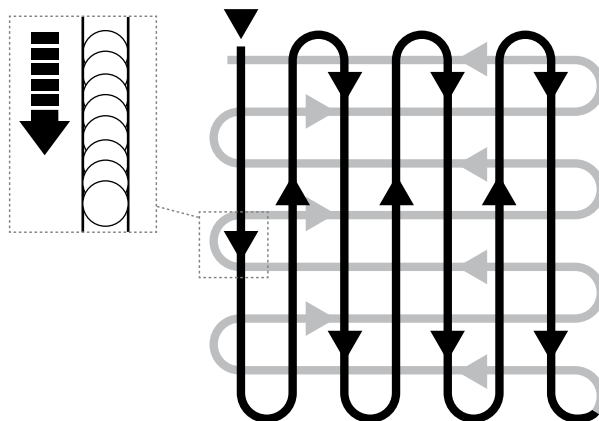

Fig. 14
- > Keep the bonnet flat on the working surface and move it with even speed in a small orbital motion to build a crisscross pattern. Try to overlap each previous pass (Fig. 14).